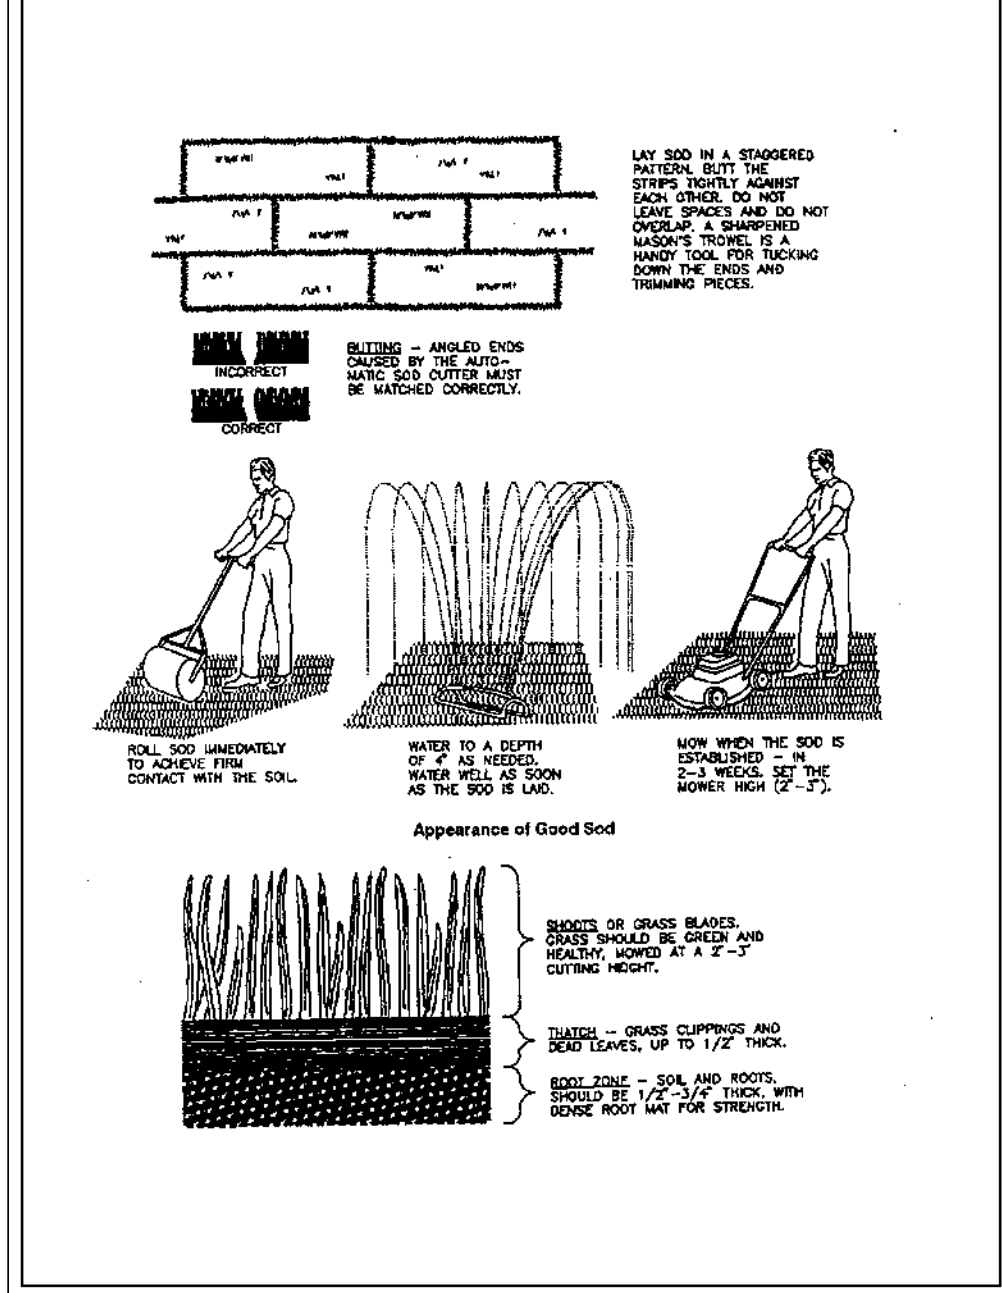

Figure 7.6a. Sodding
- Irrigate areas to be sodded with a minimum of ½ inch (13 mm) of water, unless recent rains have provided an equivalent amount of moisture (see Figure 7.6a).
- Prior to soil preparation, areas to be sodded shall be brought to final grade in accordance with the approved plan. These operations should leave as much topsoil as possible or replace the topsoil to a depth of 4 inches (10 cm) (see Figure 7.6a).